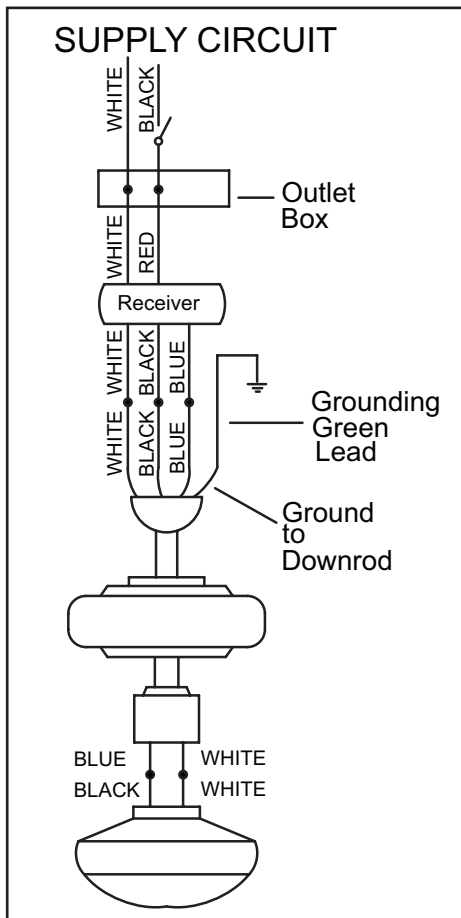

Figure 11
1. Connect the ground conductor of the 120v supply (this may be a bare wire or a wire with green colored insulation) to the green ground lead(s) of the fan (Figure 11).